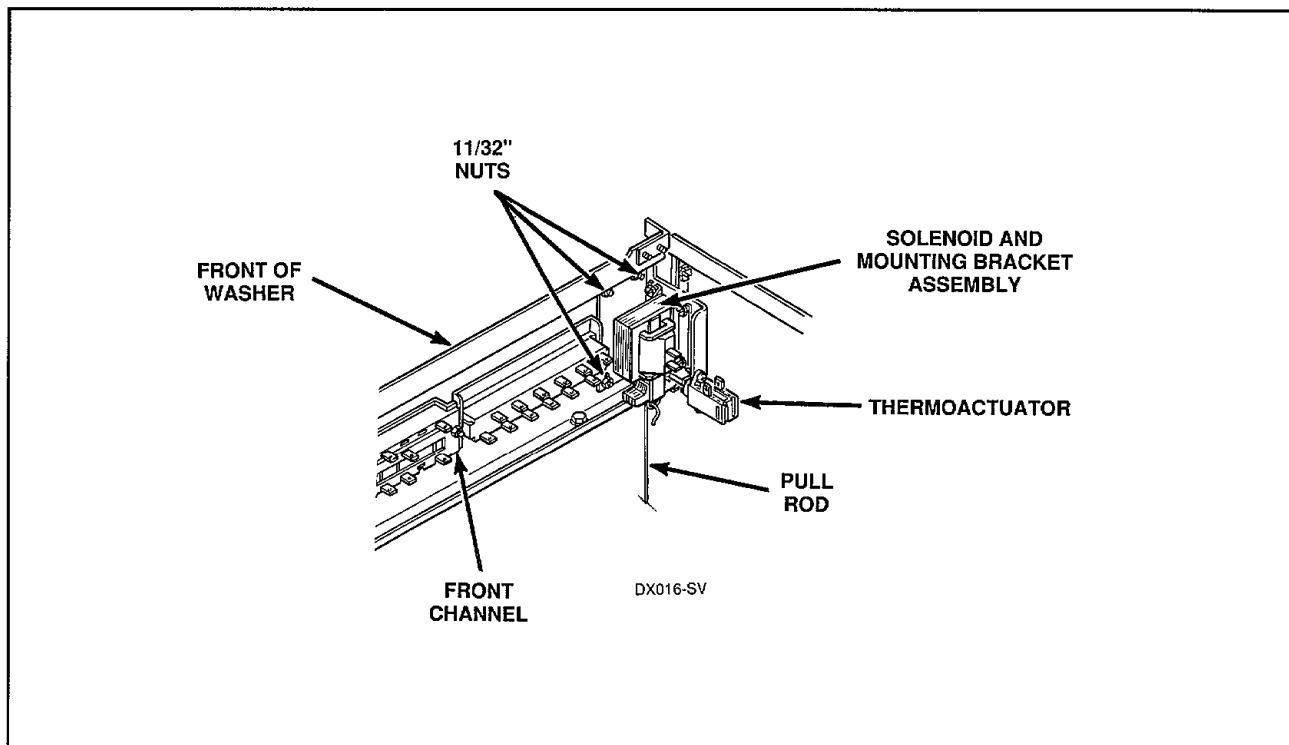

Figure 35
- e. Loosen the $\frac{1}{32}$ inch nuts holding solenoid and mounting bracket to backside of front channel, *Figure 35*.